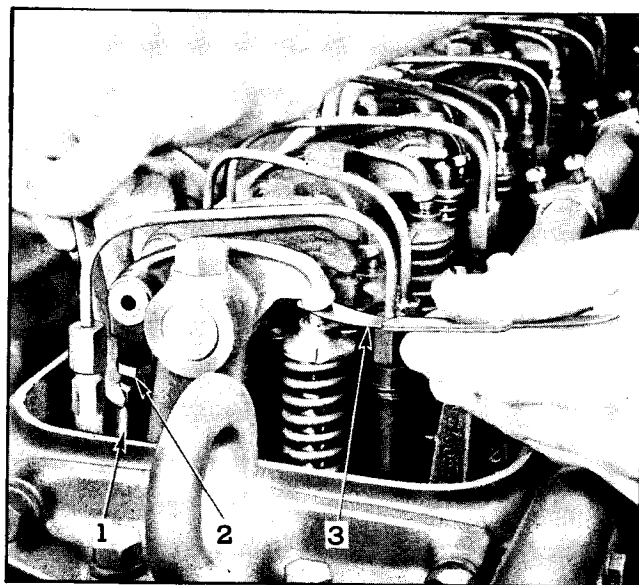

Fig. 2—Adjusting Valve Clearance and Checking with Feeler Gauge KMO 233.
1. See Fig. 2 for reference to the following operation. To adjust valve clearance, use Service Tool KMO 233, .008" GO — .010" NO GO feeler gauge set.
5. Valve clearance adjustment should be made with a $\frac{5}{16}$ " open end wrench and a $\frac{1}{2}$ " open end wrench, loosening push rod locknut (2) with the $\frac{1}{2}$ " wrench and turning the push rod (1) with the $\frac{5}{16}$ " wrench.
6. Place the .010" end of feeler gauge (3) between